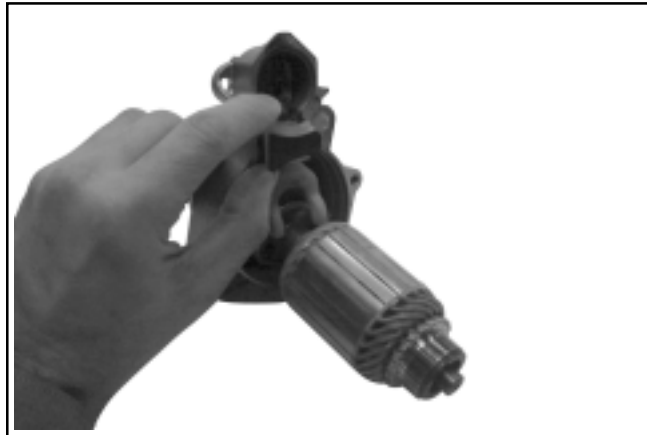

Figure 8-49. Removing Drive Lever and Armature.
8. Pull outward on the pivot portion of the drive lever, and remove the drive lever and armature from the drive end cap. See Figure 8-49.